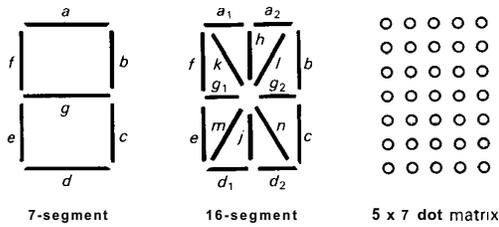

Figure 9.22
**LED displays.** Figure 9.22 shows the choices you have in LED displays. The original 7-segment display is the simplest and can display the digits 0–9 and the hex extension (A–F), albeit somewhat crudely (the hex letters are displayed as